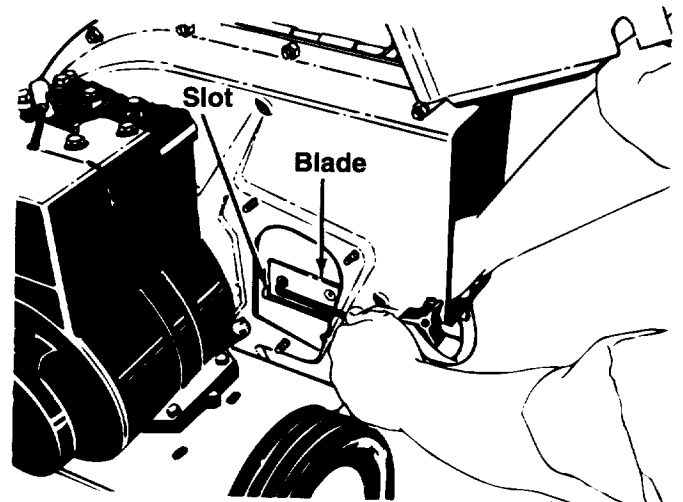

FIGURE 11.
3. Remove the chipper chute by removing three hex nuts and washers. A 1/2" wrench is required. See figure 11.
4. Rotate the impeller assembly by hand until you locate one of the chipper blades in the chipper chute opening. Remove the blade, using a 3/16" allen wrench on the outside of the blade and 1/2" wrench on the impeller assembly (inside the housing). See figure 11.
Make certain blades are reassembled with the sharp edge facing the direction shown in figure 11 (sharp edge is assembled toward the slotted opening in the impeller assembly).